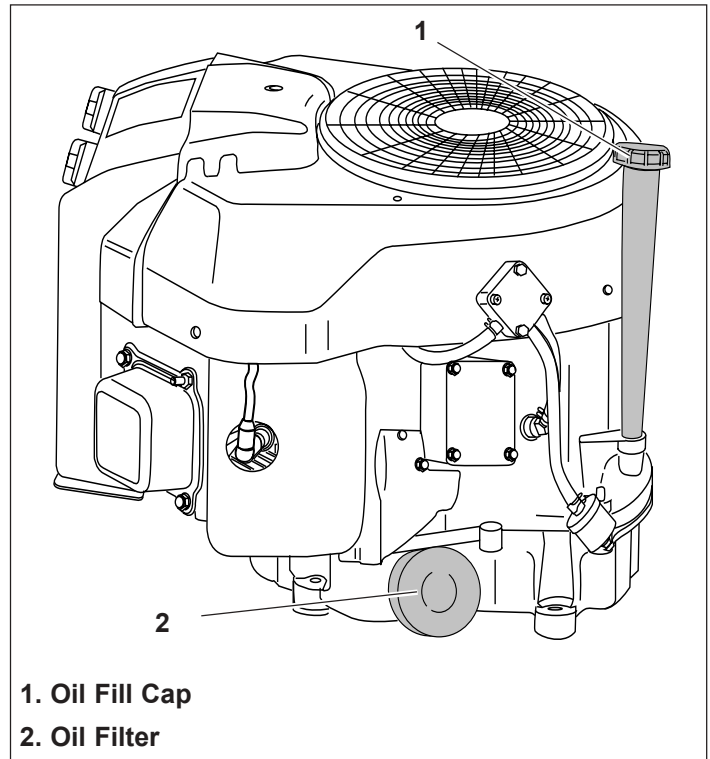

Figure 9. Oil Fill Cap and Oil Filter Location
7. Fill with recommended oil. See Page 2. See Figure 9.